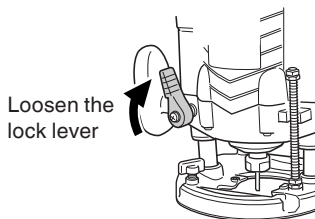

Fig. 5
- ③ Loosen the lock lever and press the tool body until the bit just touches the flat surface. Tighten the lock lever at this point. (Fig. 5)